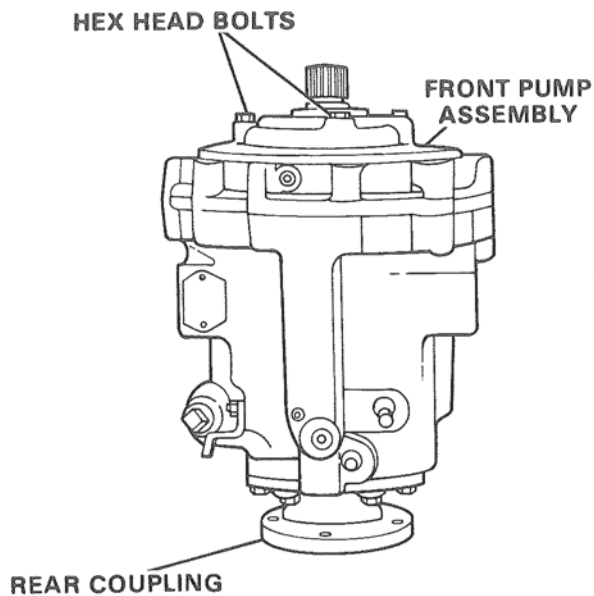

Figure 113. Mounting Front Pump Assembly.
5. With front pump assembly resting squarely on gasket and seal assembly tool removed, install four (4) 1-7/8 in. long hex head bolts. Figure 113. Tighten hex head bolts evenly to torque of 17 - 22 ft. lbs. (2.34 - 3.03 kg/m).